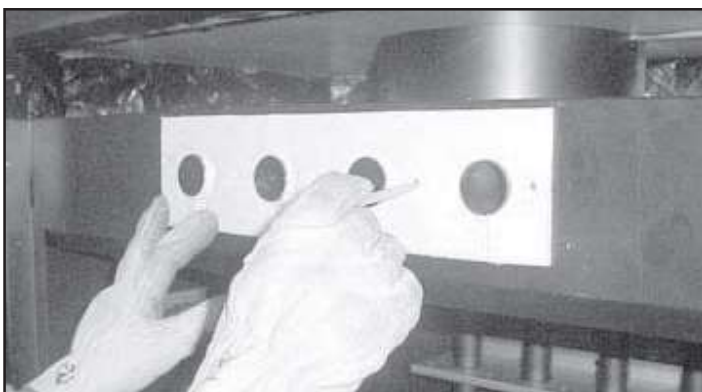

Figure 11 Place Insulation (template) & Mark Hole Locations
- Mark location of the five holes onto the unit front. See Figure 11.